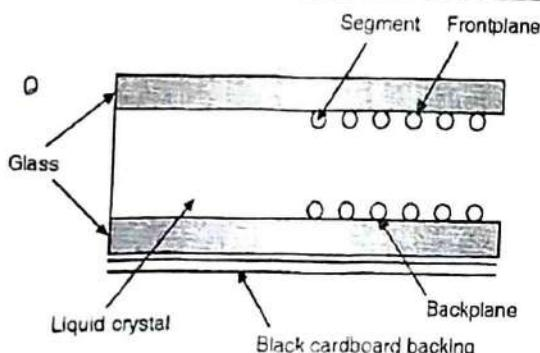

Fig. 7.5.1: A liquid crystal display (LCD)
- The basic construction of an LCD is shown in Fig. 7.5.1. The LCD's allow light to pass through it when activated. A segment is activated by the application of a low-frequency bipolar signal in the range of 30 Hz to 1000 Hz.